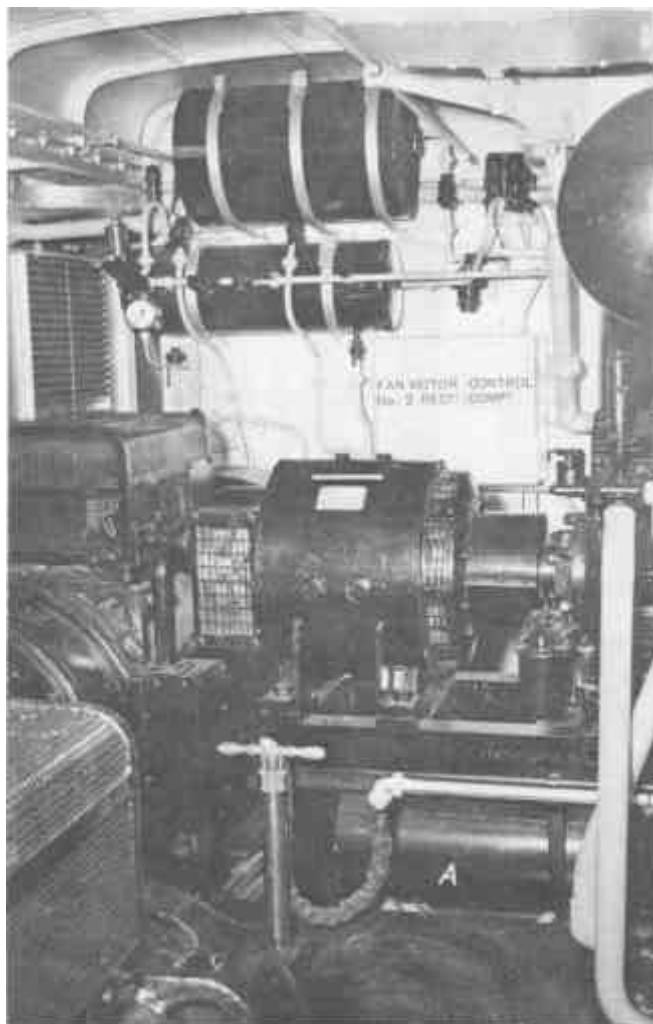

FIG.15. MACHINE COMPARTMENT.
- (2) In this position the handle points upwards and the pantographs are connected via their electro-pneumatic pantograph valves to the storage reservoir. In this position one of the pantographs can be raised from the storage reservoir by opening the storage reservoir wheel valve. See figure 13. The storage reservoir is shown at "A" in figure 15. This figure also shows the pantograph hand pump which must be used if the storage reservoir is depleted. The wheel valve is not shown in the figure but is to the right of the reservoir.